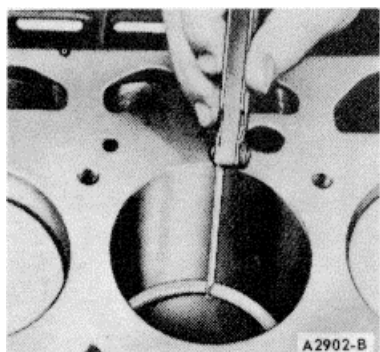

FIG. 28. Checking Piston Ring Gap
5. Measure the gap between the ends of the ring with a feeler gauge (Figure 28). If the ring gap is less or greater than the specified limits, try another ring set.